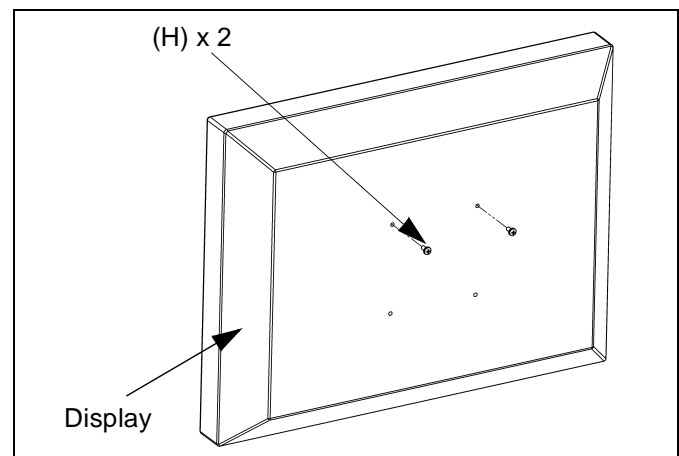

Figure 3
1. Install two M4 x 12mm Phillips pan head screws (H) into two upper mounting holes in display back. (See Figure 3)